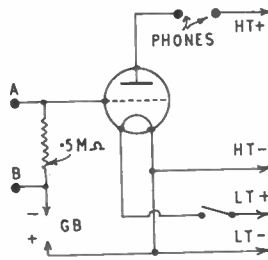

Fig. 1—Simple 1-valve amplifier
The simplest possible type of 1-valve amplifier is shown in Fig. 1, and it will give a useful increase in signal strength. The input signal is fed to the points (A) and (B).